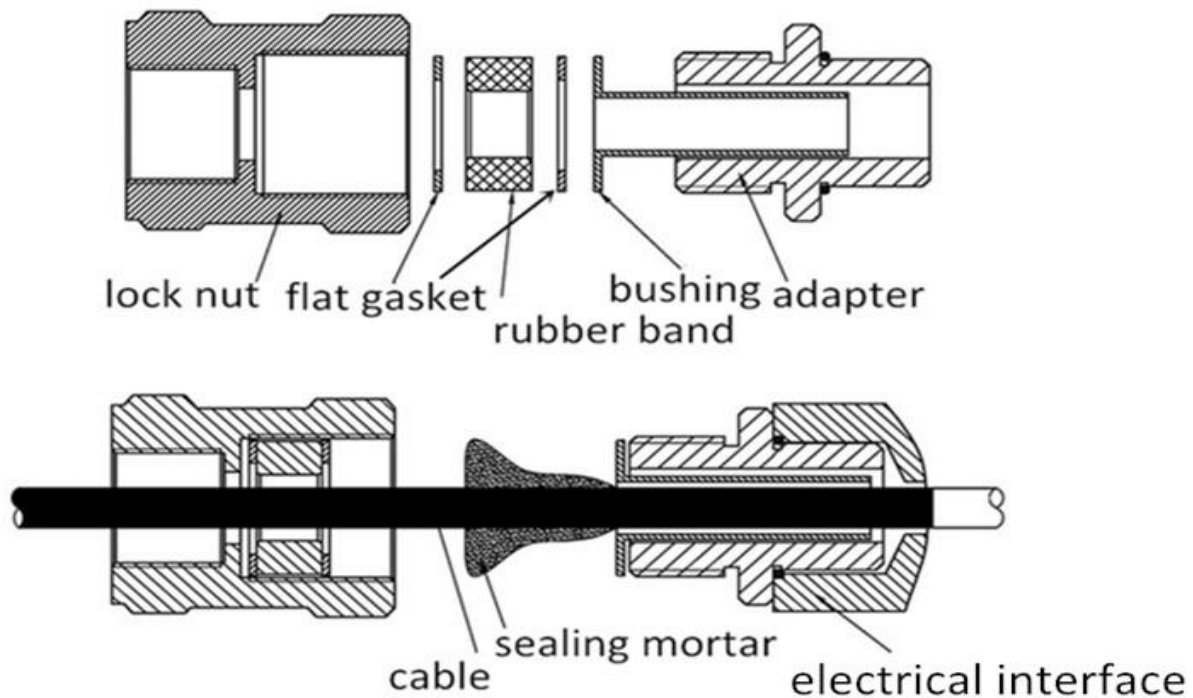

Fig. 7-2 Installation of Explosion Proof Stuffing Box Joint
- Apply explosion proof mortar. Be sure to press enough explosion proof mortar into the shape shown in Fig.7-2; then stuff into the interval between bushing inside and cable.